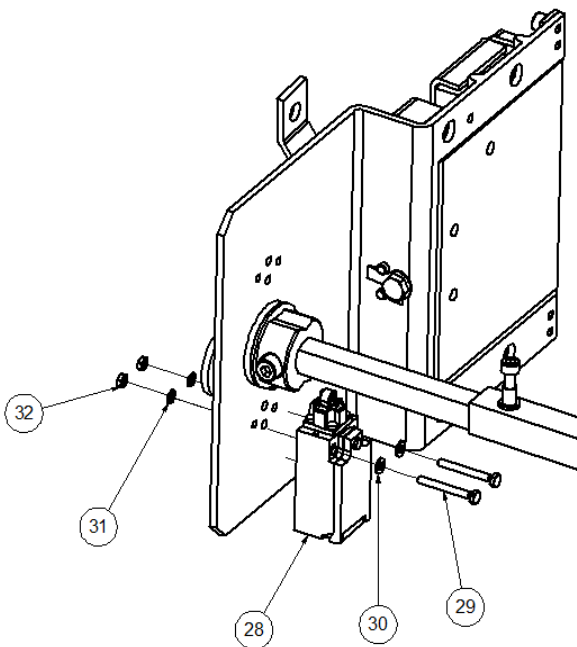
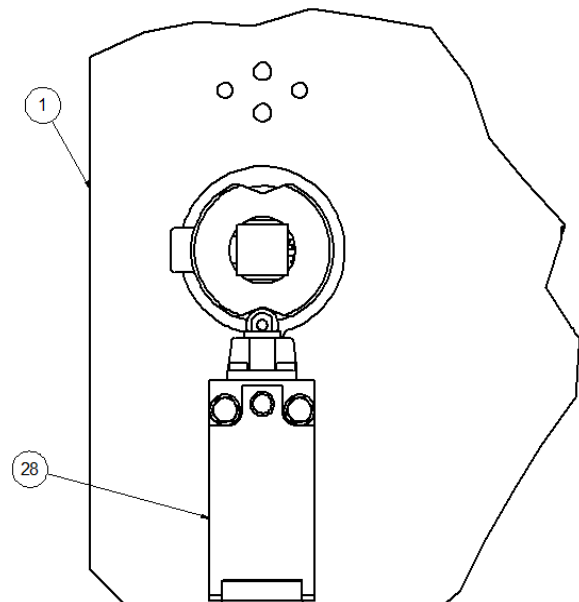

Figure 17: OMRON Fitting
Figure 18: OMRON Contact aligned with lower Bracket
The safety contact (28) is fitted into the lower bracket (1) as displayed in Figure 17. To correctly fit the contact, please align the lower side of the contact with the lower side of the bracket as displayed in Figure 18. The contact (28) is secured by inserting two M4 X 35 DIN 933 screws (29), two M4 DIN 125 washers (30), two M4 DIN 6798 washers (31) and two M8 DIN 934 nuts (32). This way, the contact is not actuated for the driving bar standby position and it will be activated as soon as the driving bar is operated.